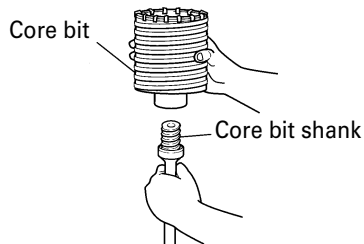

Fig. 12
- (1) Mount the core bit to the core bit shank. (Fig. 12) Lubricate the thread of the core bit shank to facilitate disassembly.